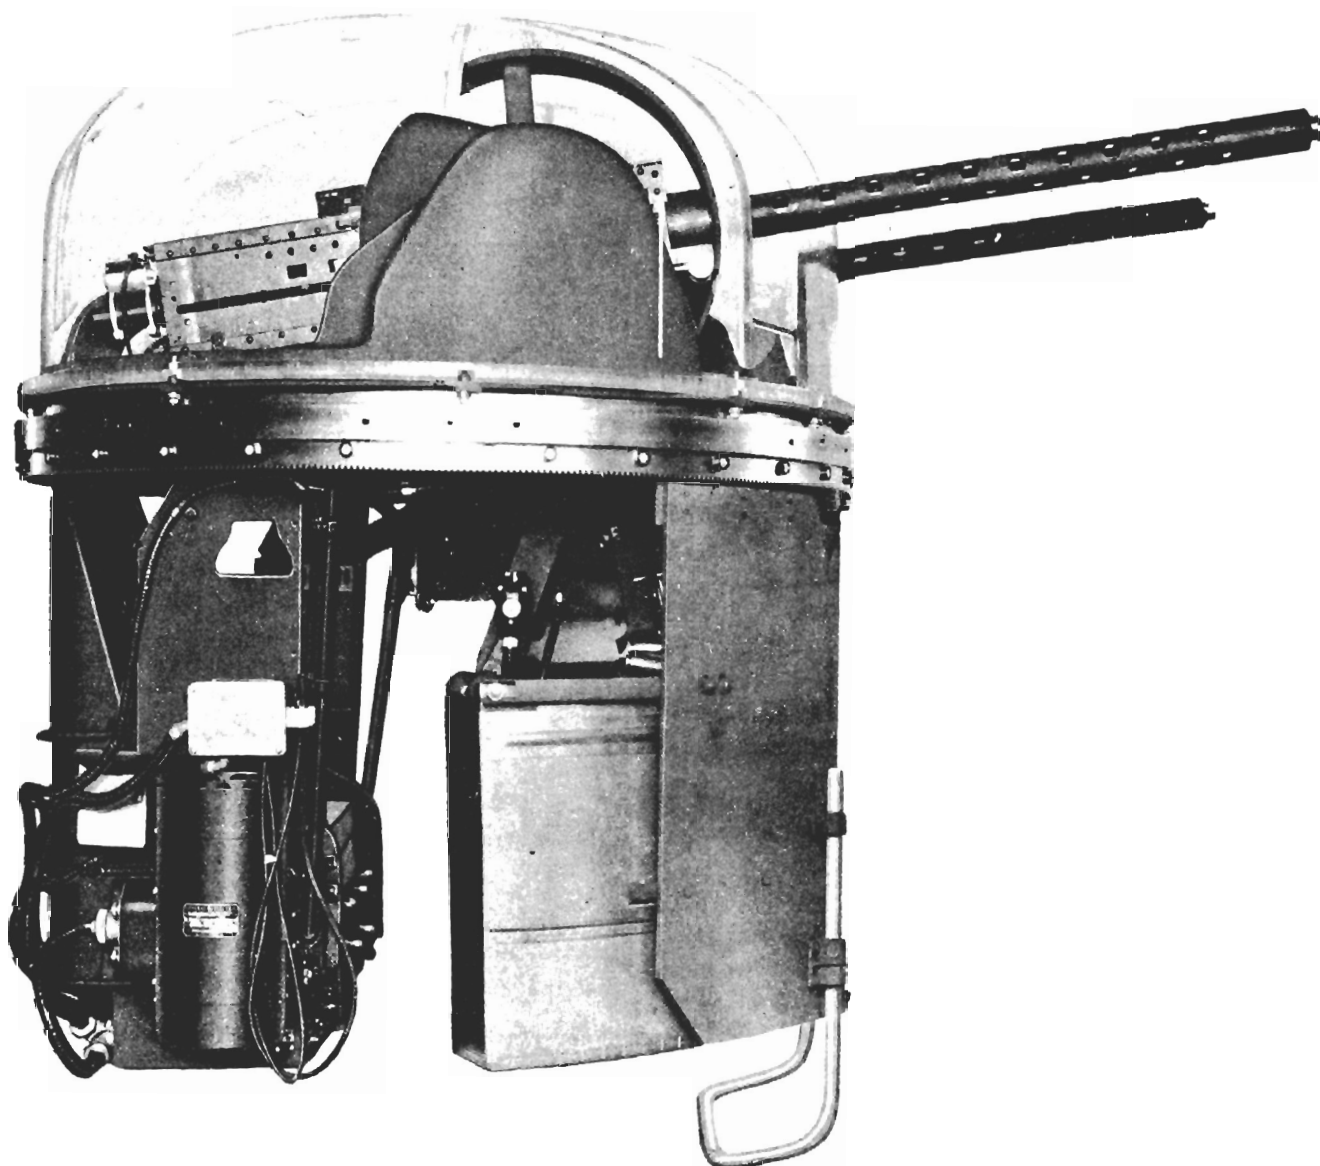

Figure 78 — Martin Power Turret
8. MARTIN POWER TURRET. (See figure 78.)